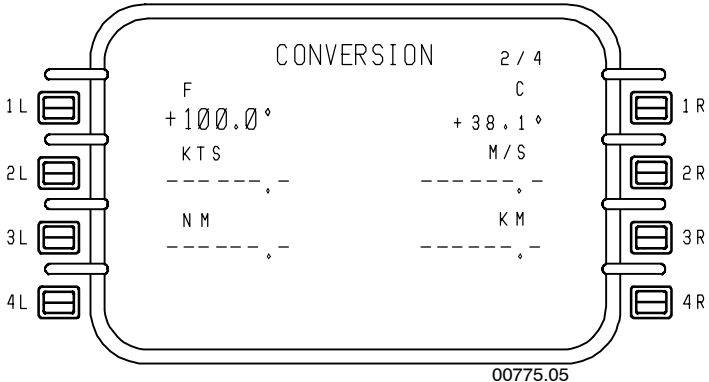

Figure 6-154
- **CONVERSION 2/4** – Figure 6-154 provides conversion between English and metric units for temperature, velocity, and distance.